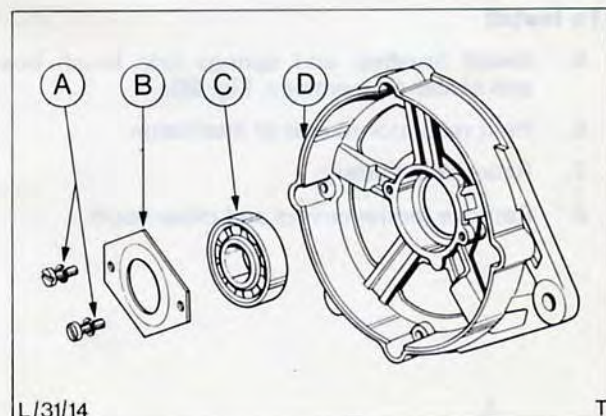

Fig. 27. Fitting the drive end bearing
- 17 Refit drive end bearing, into housing and secure with retainer plate. Assemble the bearing and retainer as shown in Fig. 27.